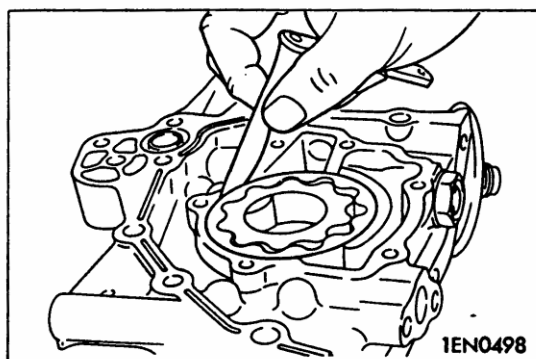

Fig.4-89
- (4) Check the body clearance using a thickness gauge, see Fig.4-89.